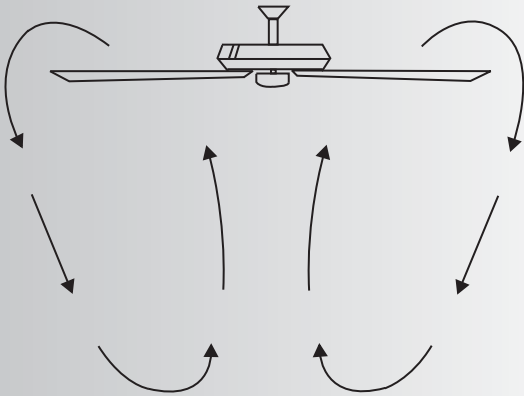

Fig. 19
**Cool Weather Operation:** Reverse (clockwise). An upward airflow moves warm air off the ceiling areas as shown in Fig. 19. This allows you to set your heating unit on a cooler setting without affecting your general comfort.